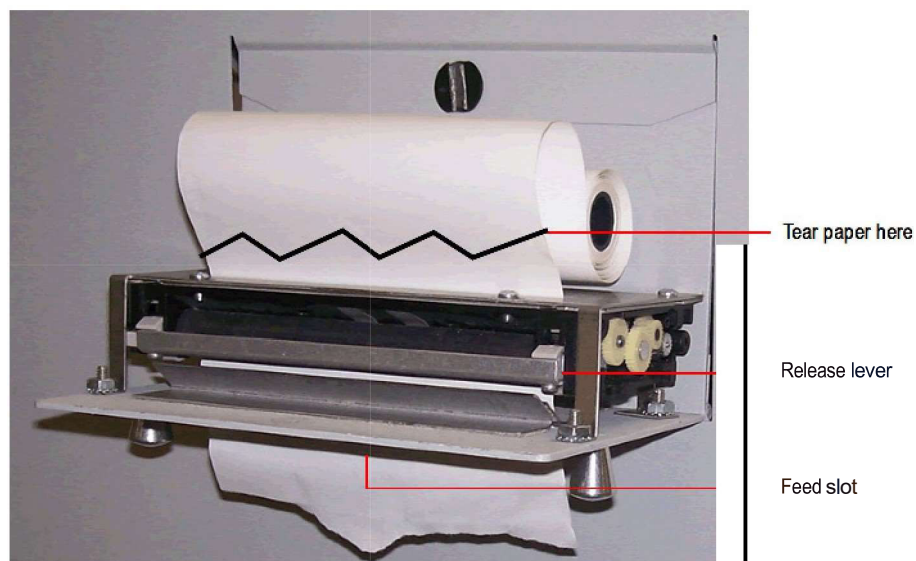

FIGURE 79: Paper removal
- 4 Place a new roll of paper on the metal shaft and install the roll in the printer so that the paper will feed from the top of the roll (see Figure 79). The paper will automatically feed into the printer.